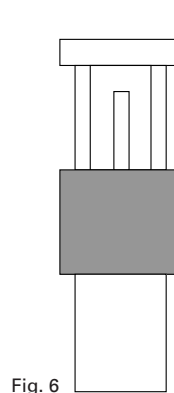

Fig. 6
3. Slide the sensor cover to the down position to let the air velocity sensor come in contact with the air (refer to Fig. 6).